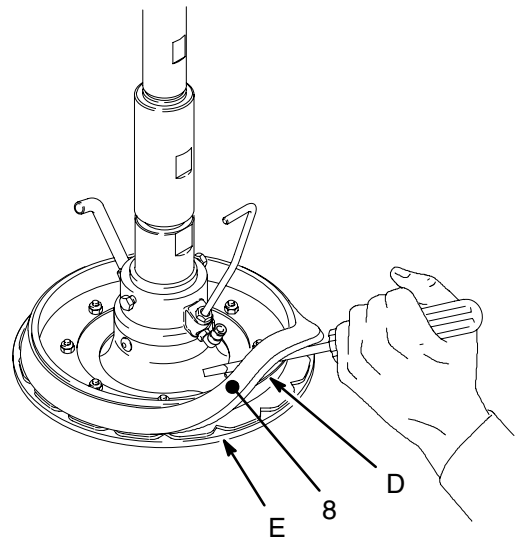
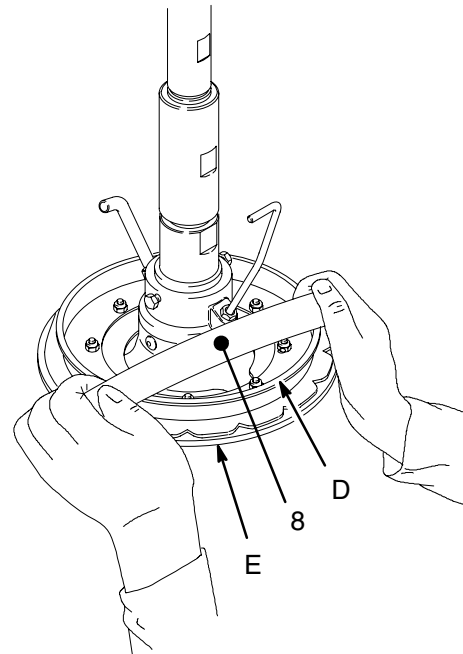
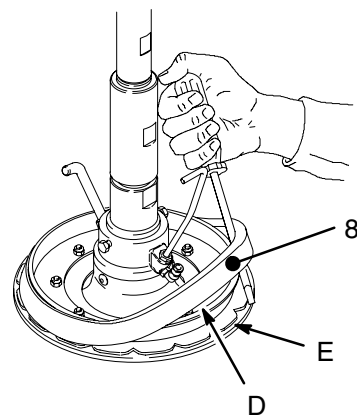

Fig. 10
Fig. 11
Fig. 12
- a. **To use the wiper plate with tapered pails**, the large spacer (8) must be removed. *Working from the bottom*, use a screwdriver to pry the spacer loose. Work it upward so it is completely above the flange (D) of the wiper plate. See Fig. 10. Next, by hand, angle the spacer and work it off the plate, pulling it down over the flange and bottom wipers (E). See Fig. 11. Save the spacer, as it is required for other applications.
- b. **To reinstall the spacer for use with a straight sided pail**, first make sure the large diameter of the spacer (8) is facing **down**. Work the spacer up over the wiper plate by hand, so it is completely above the flange (D) of the wiper plate. See Fig. 11. Then, *working from the top*, use a screwdriver to position the spacer between the flange (D) and the wipers (E). See Fig. 12.
4. Connect a 965 mm (38 in.), 6.3 mm (1/4 in.) OD tube (F) from the ram's air assist valve (G) to the elbow (H) on the wiper plate.
1 To use Model 222909 Plate with a tapered pail, the spacer (8) must be removed. See page 10, and Figs. 10–12.